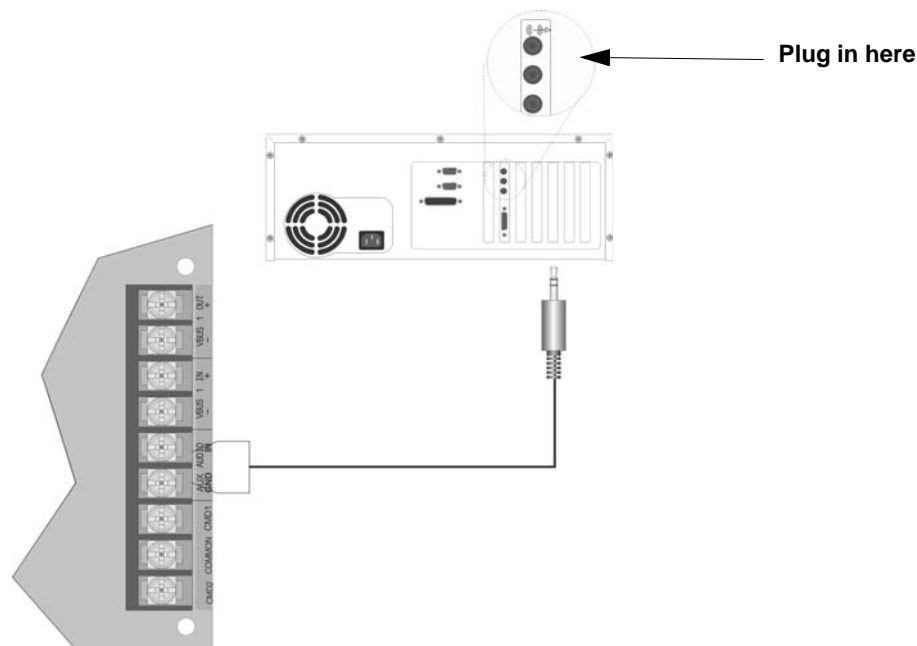

Figure 9-7 AUX Audio Connection for Recording
1. Wire a speaker cable with 1/8" mini plug (Radio Shack Cat. No. 42-2454) to the Aux AUDIO GND and IN terminals. Refer to Figure 9-7.
2. Plug the mini plug into the Line Out/Headphone jack on a PC or laptop. See Figure 9-7.